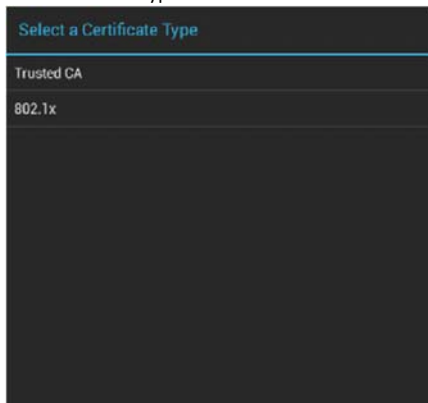

FIG. 106 Select a Certificate Type window
2. Select the type of certificate that will be installed: Trusted CA or 802.1x (FIG. 106):